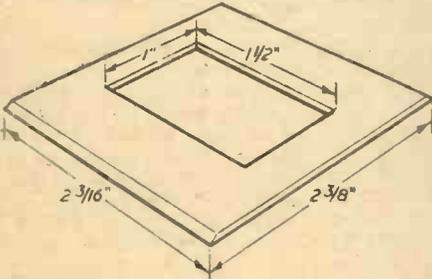

Fig. 1.—Mask for camera.
**A** ROLLEICORD film can be converted to 35 mm. as follows: first, the usual masks are required, and since the die-cast body of the Rolleicord lends itself admirably to the fitting of a mask in the film track, no difficulty should be experienced with this if the details of Fig. 1 are followed. The mask should be sprung into position, and the tapered edges go beneath two pressed metal projections to which the film rollers are secured. The mask must be sunk a little to avoid contact with the surface of the film.